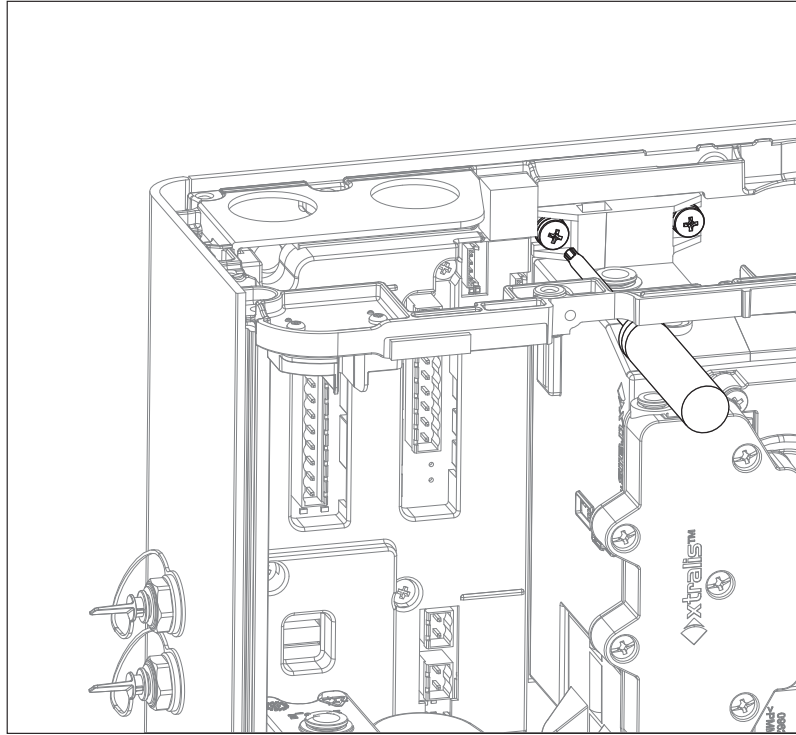
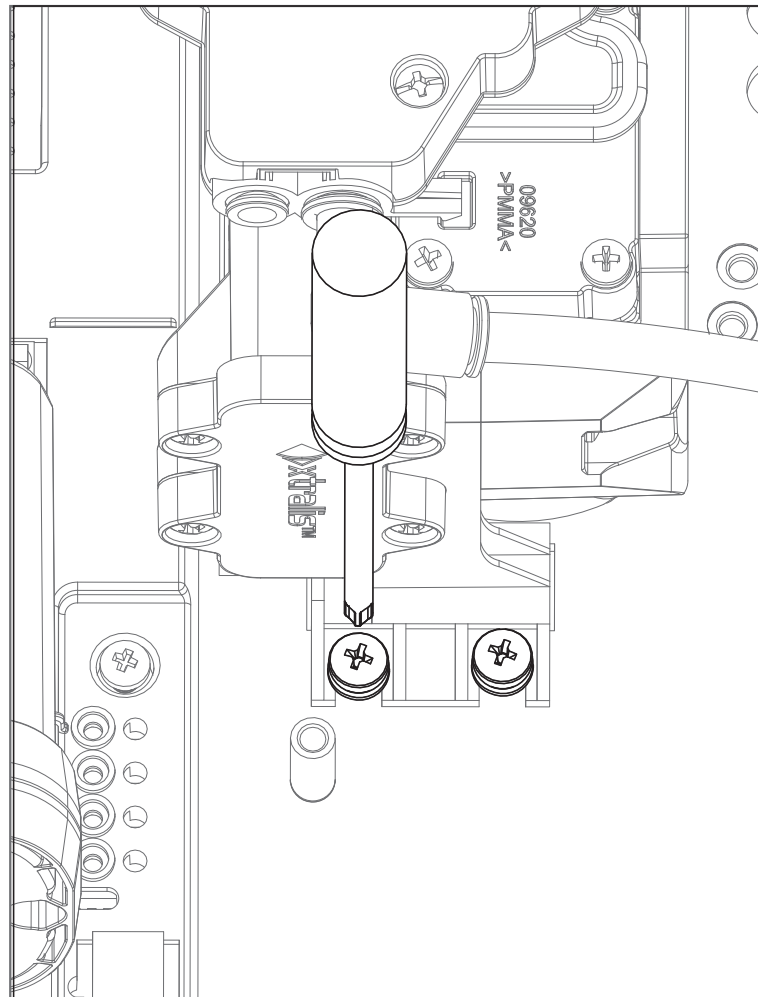

Figure 7-31: Remove Smoke Sensor Module retaining screws
Figure 7-32: Remove Smoke Sensor Module retaining screws
9. Remove four Smoke Sensor Module retaining screws (Figure 7-31 and Figure 7-32). Two screws at the top and two screws at the bottom of the module.